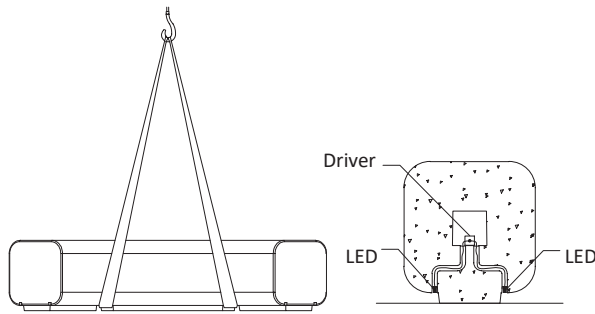

Fig. 1 - Free-standing backless bench
2. Set in place with proper equipment such as a crane. See Fig. 1